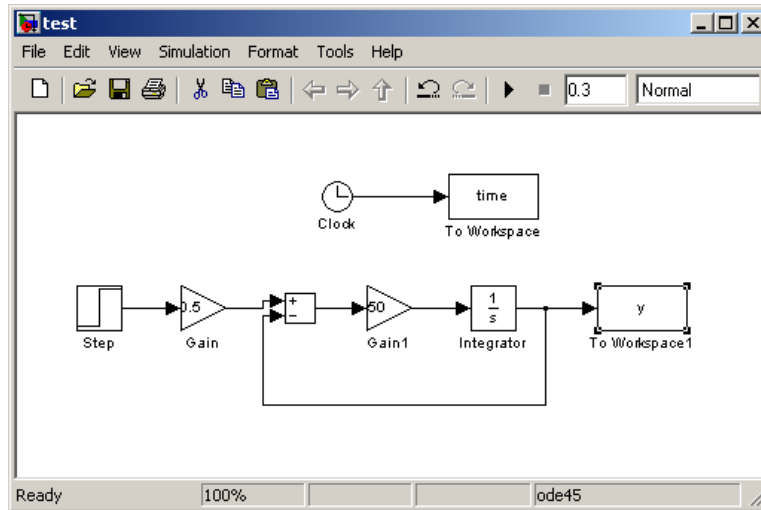

Figure 15: Final First-order Model
- 6) Double click on the **simout** block connected the **integrator**. Set the variable name to **y** and the Save format to Array. Your simulation file should now look like Figure 15.